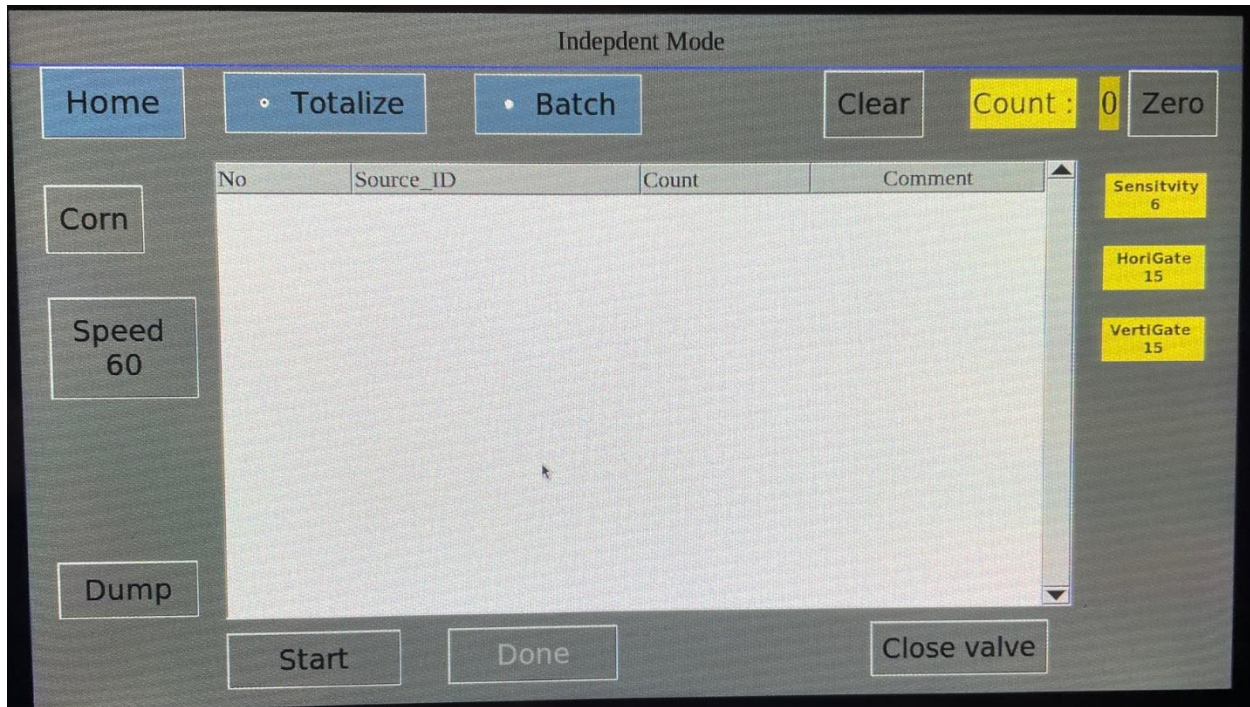

Figure 2.2.2
- Click Independent Mode, the interface will change to Independent Mode as shown at Figure 2.2.2